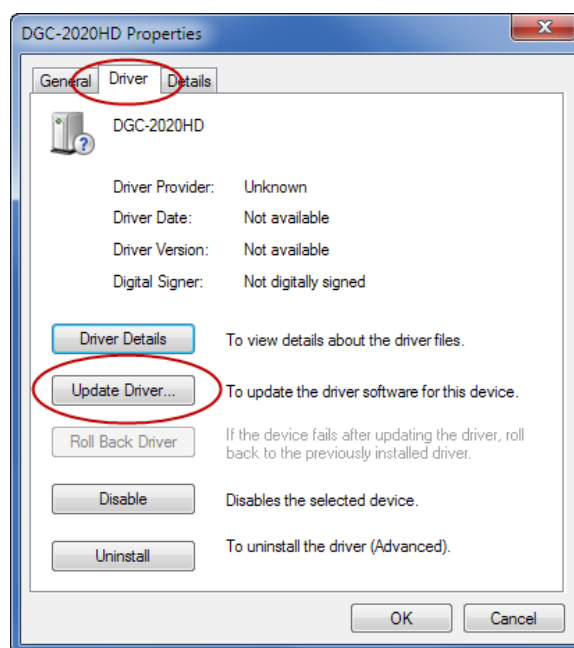

Figure 9-3. DGC-2020HD Properties
Step 3. In the Properties windows, select the Driver tab and click Update Driver. See Figure 9-3.